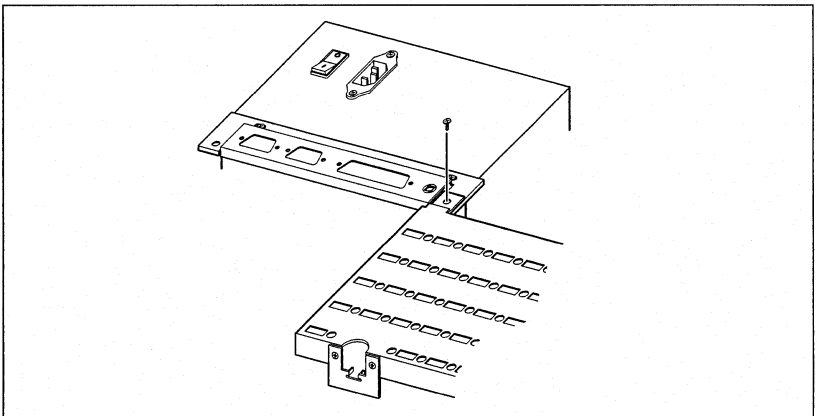

fig. A-20
5. The security tab and screw bolts the retention plate into place on the I/O bracket (fig. A-20).